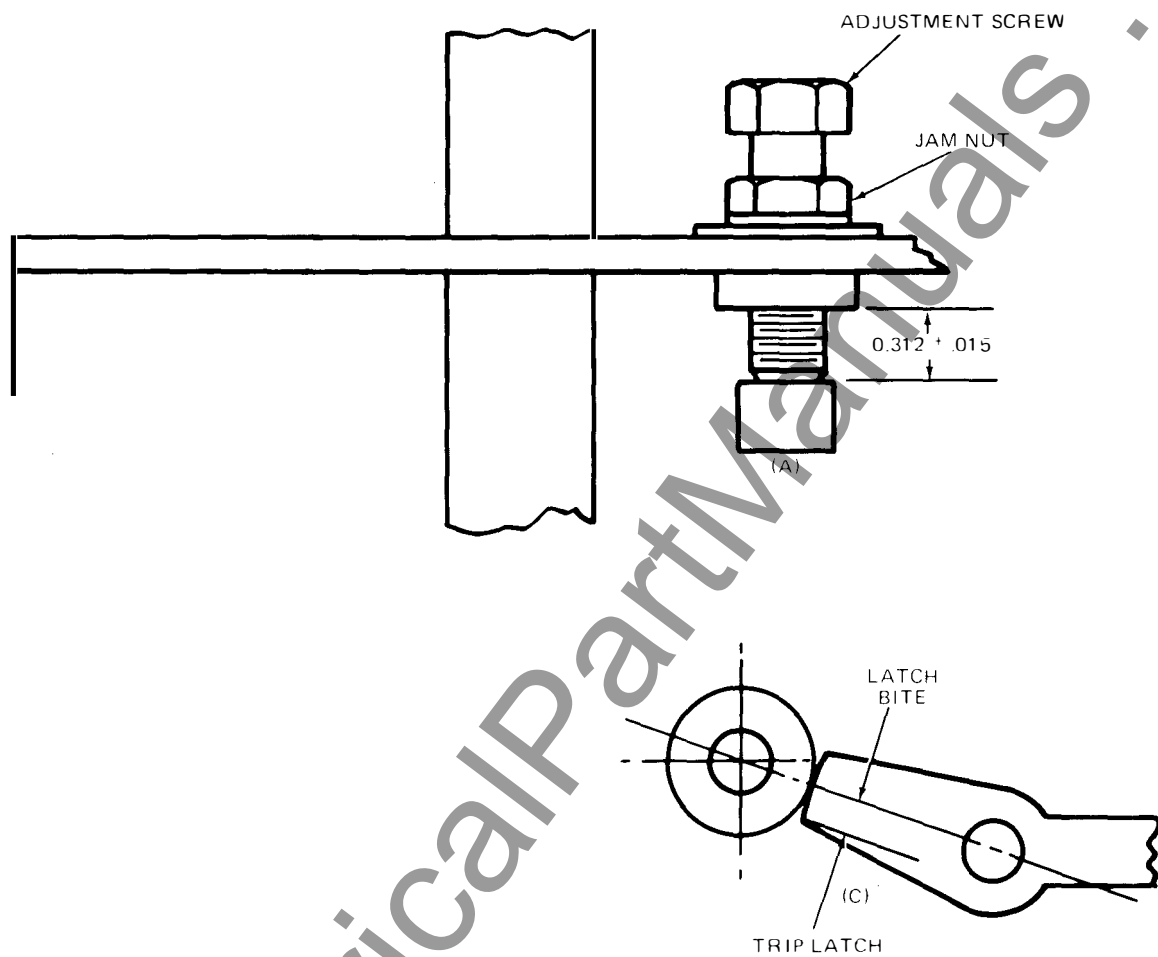

Fig. 14 — Trip Latch Bite and Check Switch Adjustments
**Trip Latch Bite Adjustment** — trip latch bite is established by setting the latch tails top surface 5/16 below surface of self clinching nut as shown in Fig. 14. Lock securely with jam nut. One turn of the adjusting screw will alter the gap 0.062 inches. This adjustment should produce 0.259 to 0.111 inches of latch bite as shown in Fig. 14.